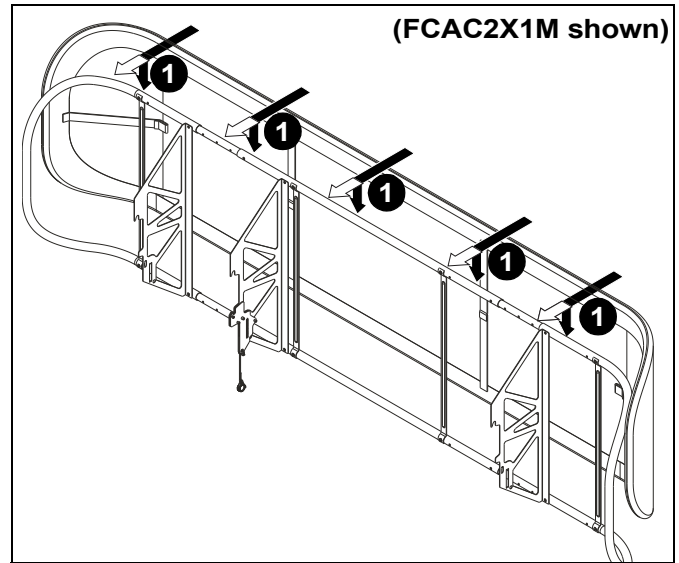

Figure 11
1. Wrap fabric cover (A) over assembled frame. (See Figure 11)